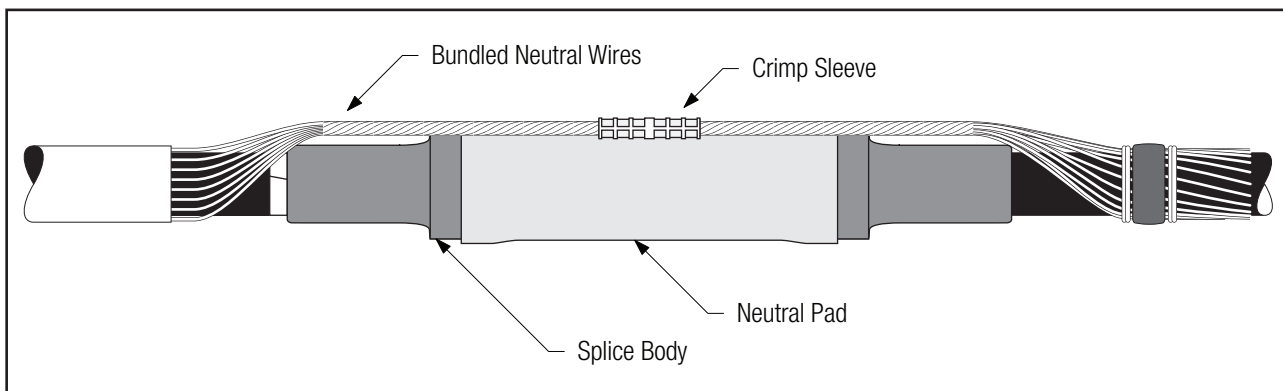

Figure 38
- 10.1.1 Center neutral pad on splice body. Remove temporary vinyl tape from neutral wires and connect with an inline compression connector (crimp sleeve). Route neutrals and connector over the neutral pad (*Figure 38*).